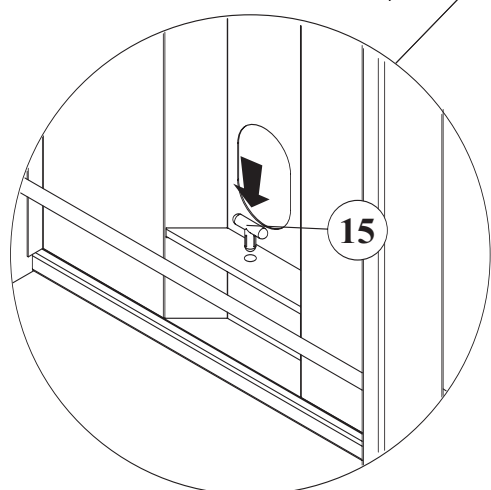

Fig 2
H. From the front of the unit, CAREFULLY SLIDE one of the two supplied smaller glass shelves (14) onto the bottom glass shelf support crossbars (2 and 11) so that the smooth side is facing upwards, and the hole in the glass shelf is facing towards the rear and inserted through the slot in the CMS® post (4). SECURE the glass shelf behind the CMS® post using one of the two supplied plastic 'T' pins (15) as shown in Fig.2. REPEAT the same procedure for the middle glass shelf (14).